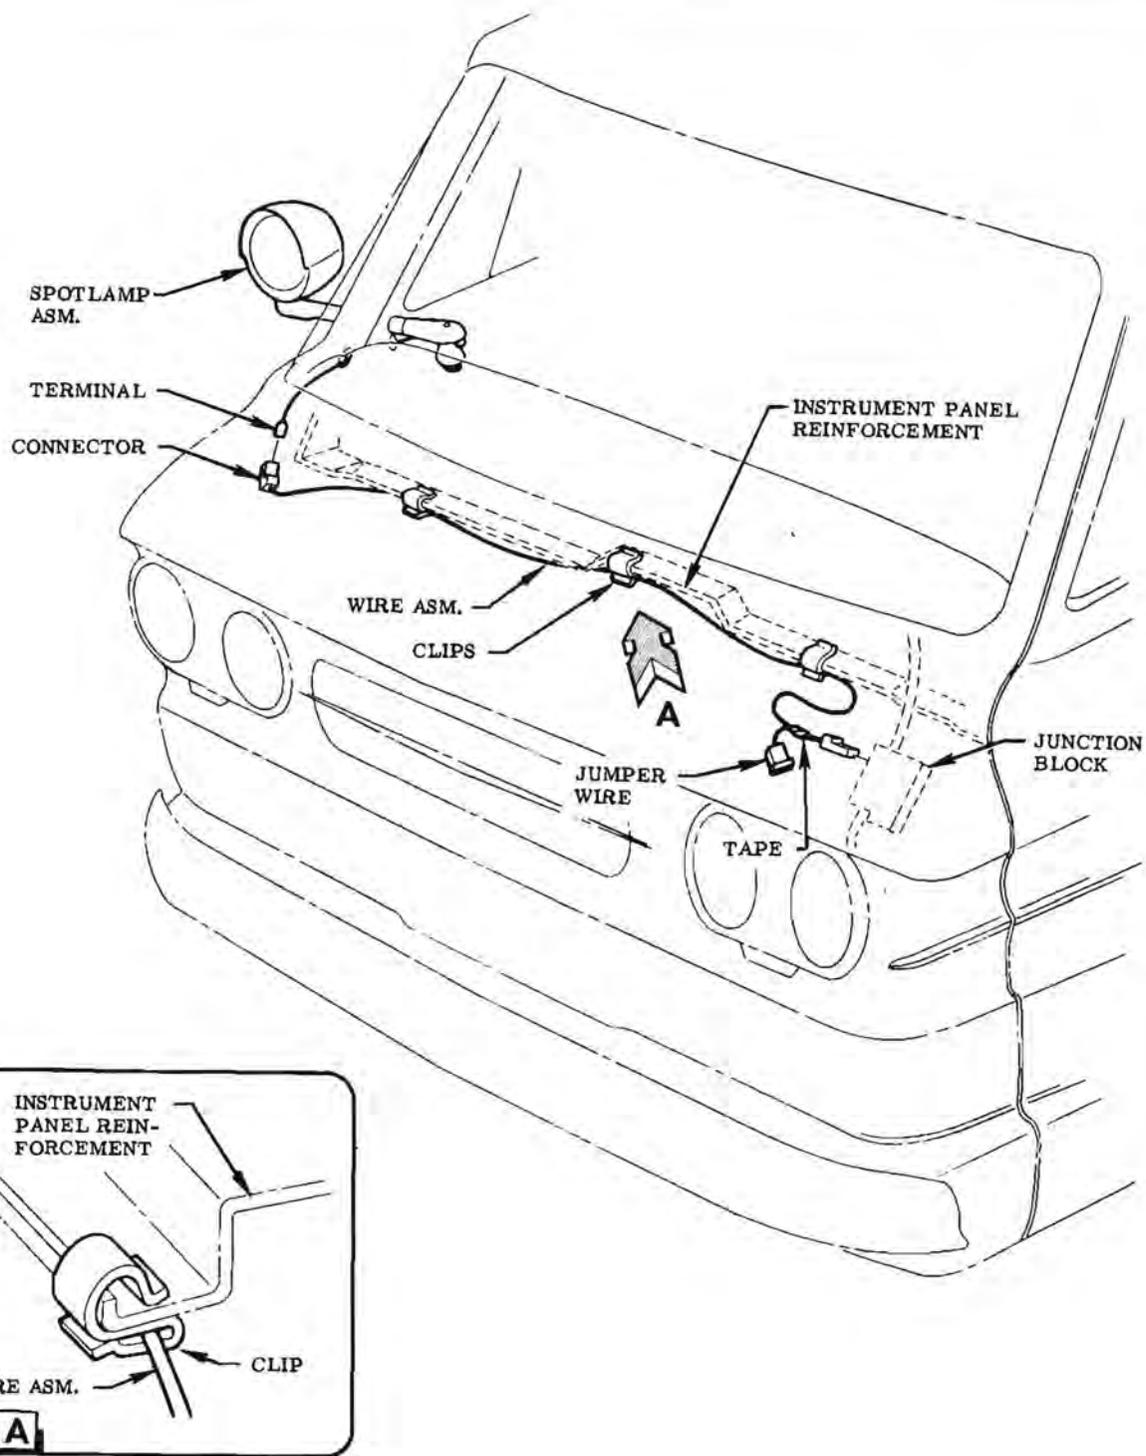

FIG. 4 WIRING R.H. SPOTLAMP
STEP 15 (R. H. SPOTLAMP) PLUG TERMINAL INTO CONNECTOR ON WIRE ASM. INSTALL CLIPS ON INSTRUMENT PANEL REINFORCEMENT AT CONVENIENT LOCATIONS. ROUTE WIRE ASM. THRU CLIPS. SEE FIG. 4 & VIEW A.